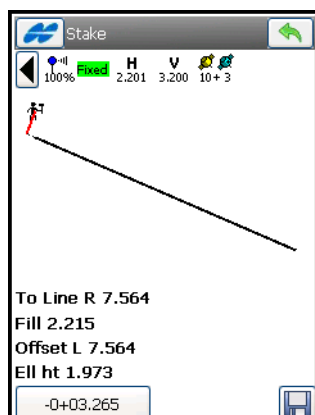

Figure 9-21. Stakeout Line
- For GPS+: use the information on the **Stakeout Line** screen for finding the target line. Tap  after the point is close enough to the line and at the desired distance from the starting point (Figure 9-21).